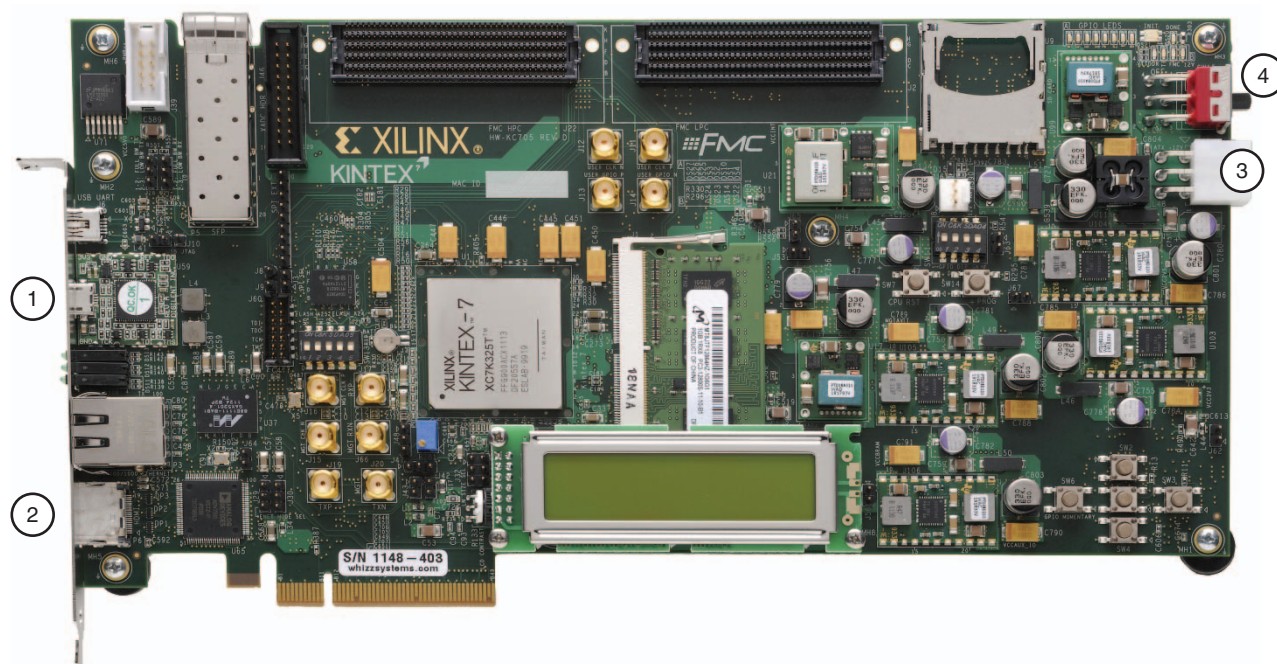

Figure 7: KC705 Board Photo
1. The reference design runs on the KC705 board (Rev D), as shown in Figure 7.
2. Connect the USB cable (provided with the board) from the host PC to the USB JTAG port (1 in Figure 7) of the KC705 board. Ensure that the appropriate device drivers are installed.
3. Connect the HDMI connector of the KC705 board to a video monitor capable of displaying a 1280 x 720p, 60 Hz video signal (2 in Figure 7).
4. Connect the power supply cable to the KC705 board (3 in Figure 7).
5. Turn on the power to the KC705 board (4 in Figure 7).